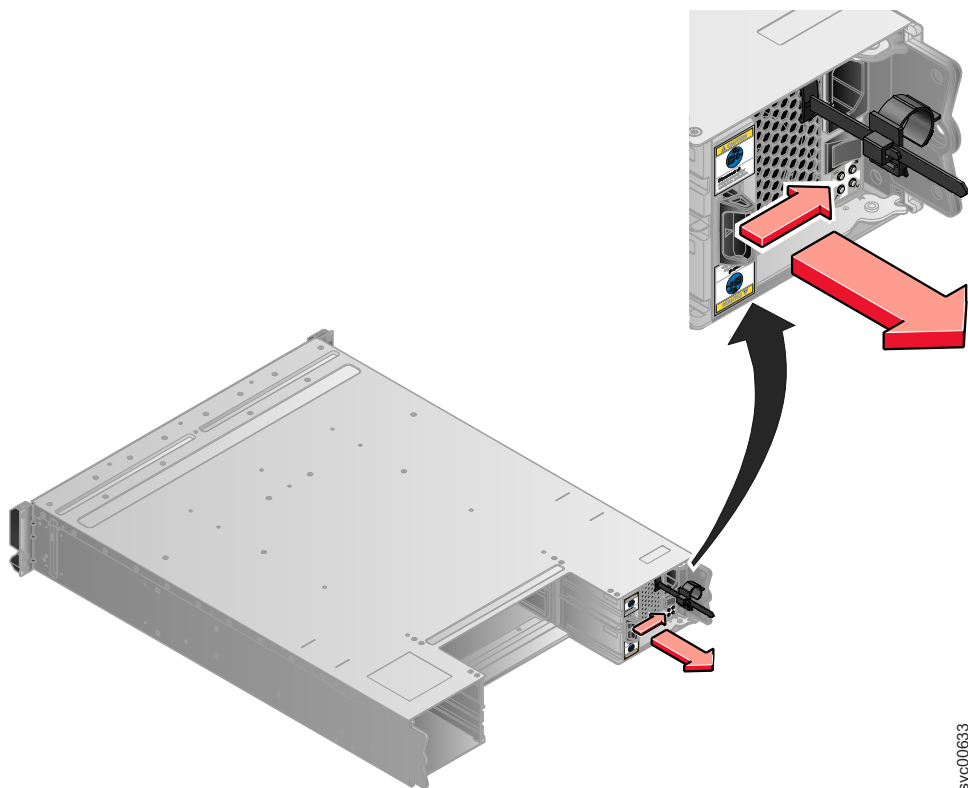

Figure 53. Directions for lifting the handle on the power supply unit
- a. Depress the black locking catch from the side with the colored sticker as shown in Figure 53 on page 192.